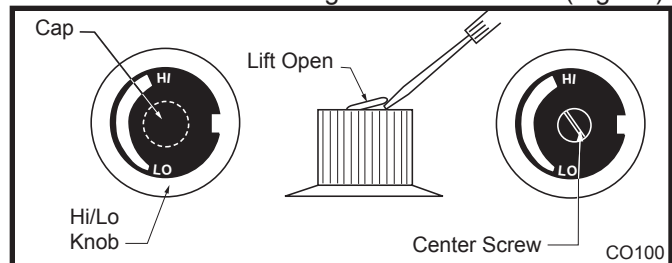

Fig. 54 Remove center screw from Hi/Lo knob.
10. Remove cap from Hi-Lo knob. This can be accomplished by lifting the plastic cap off the screw. (Fig. 54)
11. Remove the screw from center of Hi-Lo knob with small screwdriver turning counterclockwise. (Fig. 54)